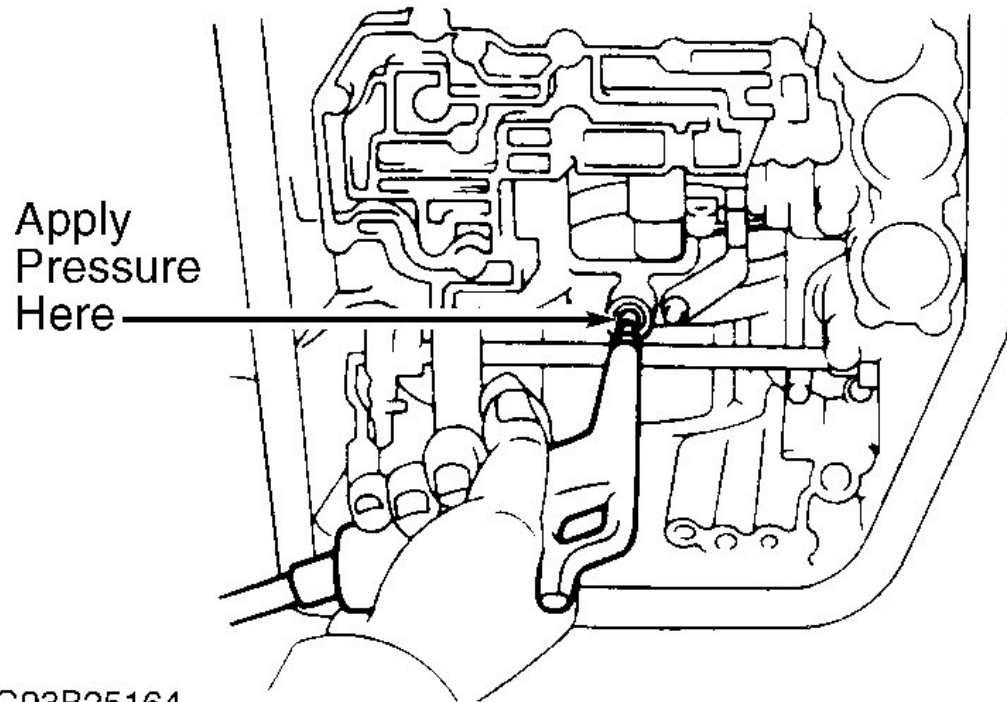

Fig. 44: Checking Operation Of 2nd Brake
15. Check operation of 2nd brake by applying compressed air into case oil passage. Ensure piston moves freely. See **Fig. 44**. Install new drum gasket until contact is made with 2nd brake drum.